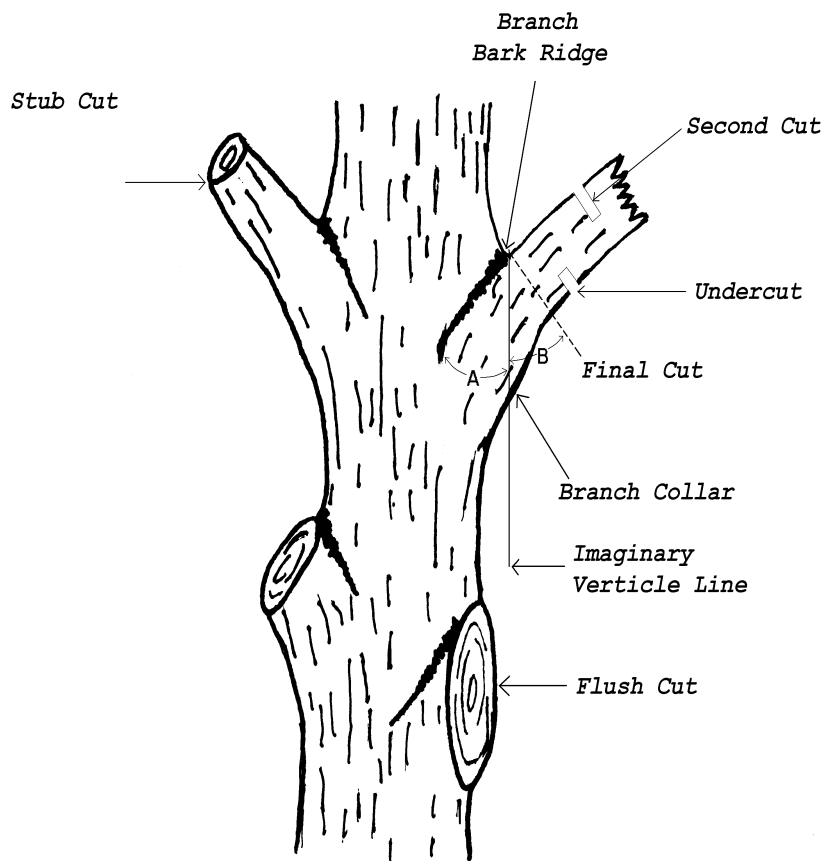

Figure 6
overlapping of wood at the branch union with the trunk or parent branch is called the ‘**branch collar.**’ The raised strip of bark in the branch crotch is called the ‘**branch bark ridge**’ (figure 6). Preserving the branch collar significantly affects wound closure and prevents decay from entering the parent branch or trunk.
There are three types of pruning cuts: thinning, heading and drop-crotch. Of the three the thinning cut is preferred because it preserves the branch collar so that the tissue of the trunk or parent branch is not injured or wounded. Pruning cuts that remove only branch wood, with the cut placed just outside the branch collar, are called ‘**natural target pruning.**’ Trees respond to wounding by forming protective barriers that isolate the injured, diseased, or decayed wood. A pruning cut that preserves the branch collar limits the invasion of diseases or decay to the branch wood that remains after the branch is cut. An improper cut that removes the branch collar, often called a ‘**flush cut,**’ (figure 6) can allow disease and decay to invade and weaken the wood of the trunk or parent branch. Flush cuts can lead to decay that over time may result in tree or branch failure.
Making a thinning cut is a four step process (refer to figure 6):
4. Finally, remove the remaining branch stub at a point just outside the branch collar. If the branch collar is not obvious, draw an imaginary line parallel with the trunk or parent branch starting at the top, outer edge of the branch bark ridge. Now approximate angle **A** between the imaginary line and the branch bark ridge and make your pruning cut so angle **B** is the same as angle **A** (Figure 6).